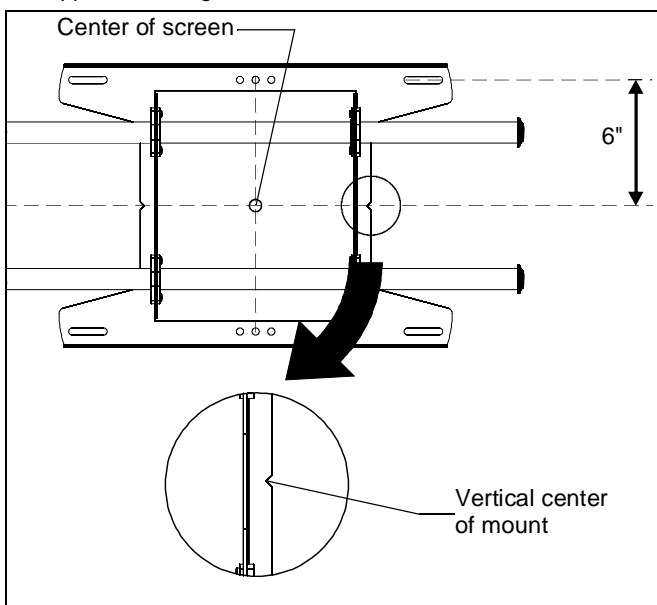

Figure 1
3. Line up the notches on mount with center of screen marking to determine vertical center. (See Figure 1)
2. Line up the notches on mount with center of screen marking to determine vertical center. (See Figure 1)
3. Measure up 6" from the center point to mark location of the upper mounting slots. (See Figure 1)